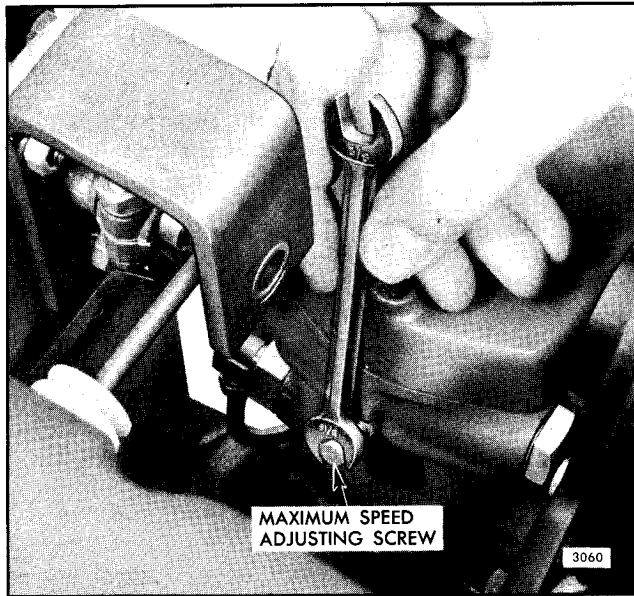

Fig. 5 - Adjusting Maximum Engine Speed
3. Loosen the locknut and back off the maximum speed adjusting screw approximately 5/8" (Fig. 5).
3. Turn the maximum speed adjusting screw in lightly until contact is felt with the linkage in the governor (Fig. 5).